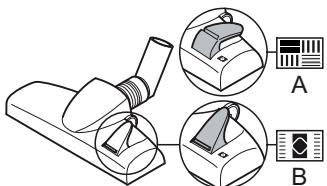

Fig. 13
5. Adjust the carpet/hard floor switch (Fig. 13) depending on the type of flooring:
- **Hard floor (Fig. 13/A)**
- **Carpet (Fig. 13/B)**